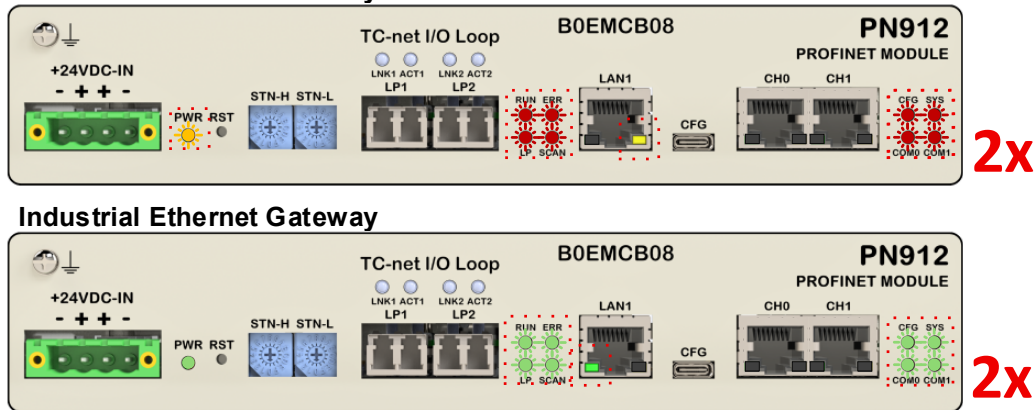

Figure 12: PN912 start up LED test
3. Hold the reset button. The power LED will flash orange. Keep holding until the start-up LED sequence has started, refer to Figure 12. This whole process will take about ~10seconds.
First sign of a device start up is a LED test, as shown in Figure 12: